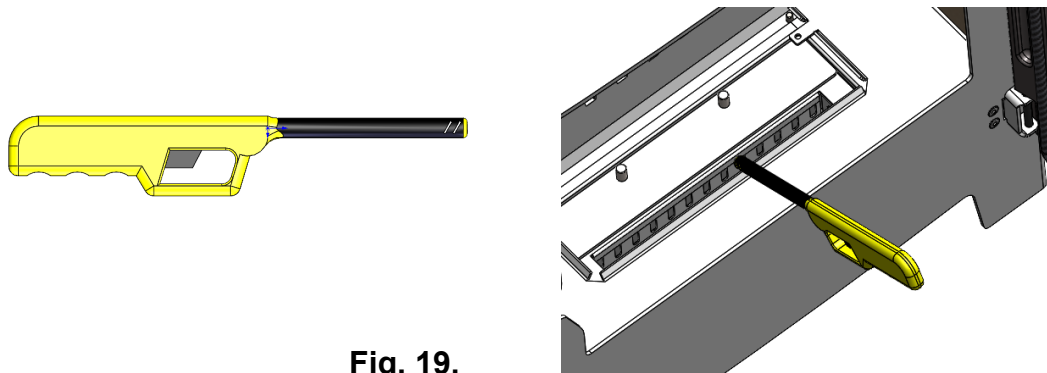

Fig. 19.
- Using a long match or we recommend a long reach gas lighter, ignite the burner. See Fig. 19.